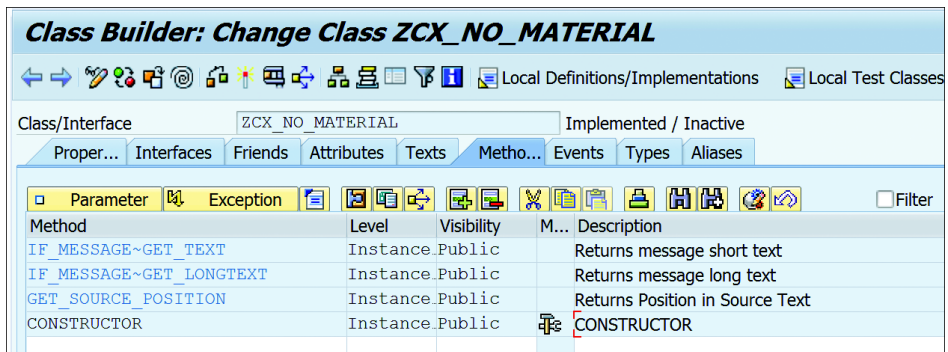

Figure 9.16 Class Builder in Exception Class Perspective
4. You'll notice that Class Builder has opened the class in the exception class perspective, which is similar to the class perspective except for minor additional options (see Figure 9.16). For example, you'll see a TEXTS tab that isn't available when creating regular classes.